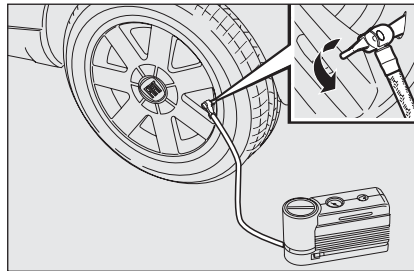
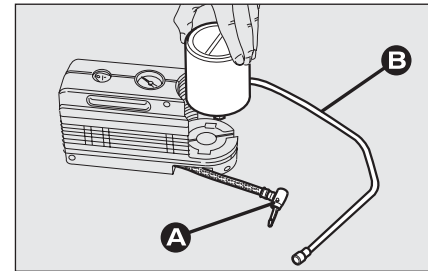

fig. 7
fig. 8
The compressor can be also used just for restoring pressure. Release cylinder connection **A**-fig. 8 and connect it directly to the tyre valve **fig. 7**; in this way the cylinder is not connected to compressor and the sealing fluid will not flow into the tyre.
- disconnect connection **A**-fig. 8;